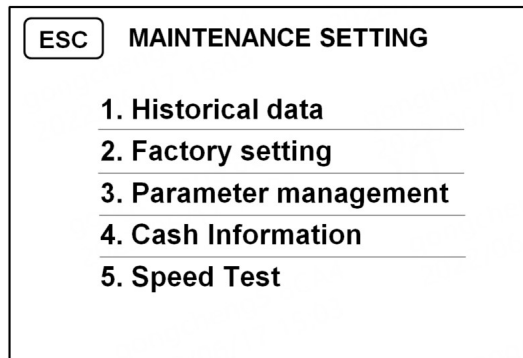
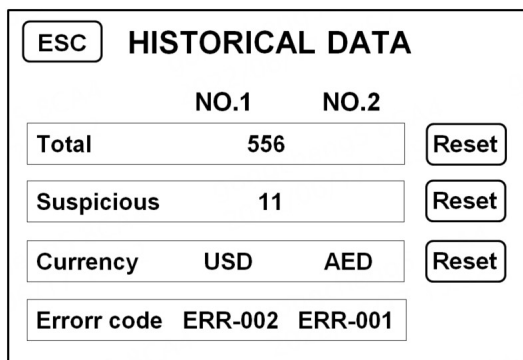

Figure 50
Figure 51
Then press the "MENU" key twice in succession to enter debug mode, as shown in Figure 50 below:
2) Touch "1. Historical data" in the interface shown in Figure 50 to enter the counting history information interface, as shown in Figure 51 below: